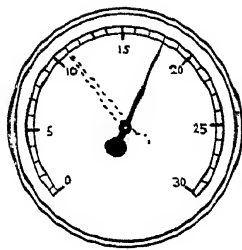

Fig. 16.—AIR LEAKS
6. Air Leaks in Intake System (Fig. 16)